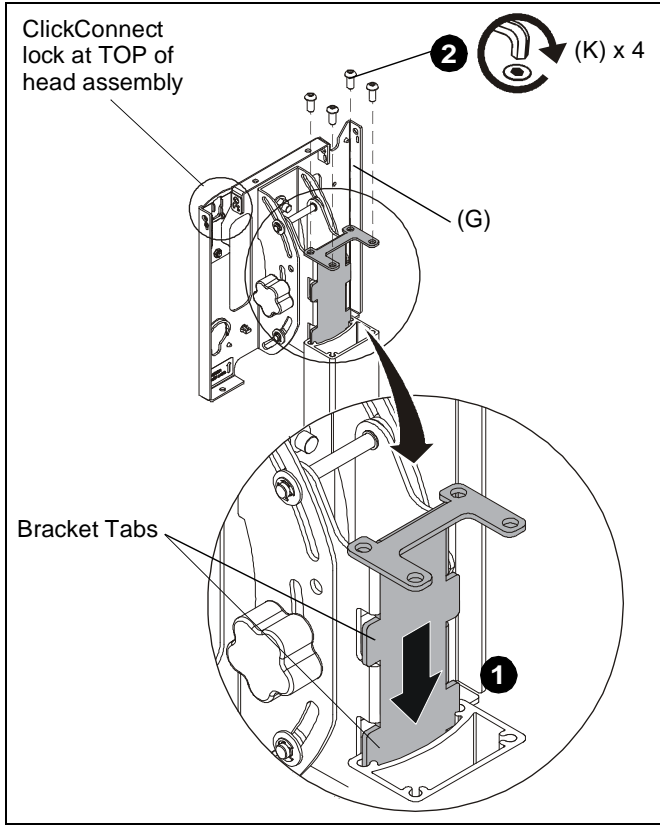

Figure 5
IMPORTANT ! : When attaching head assembly ensure that the ClickConnect lock is at TOP of head assembly, and bracket tabs slide into the stand assembly. (See Figure 5)
1. Slide head assembly (G) into the stand assembly. (See Figure 5)
2. Attach head assembly (G) to the cart assembly using four 5/16-18 x 3/4" button head cap screws (K). (See Figure 5)